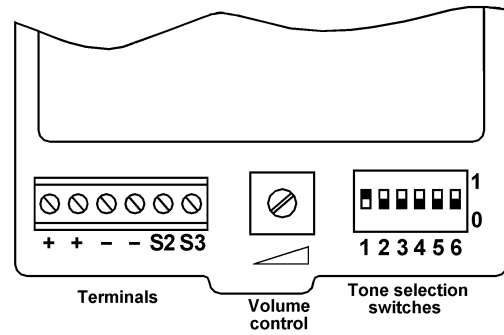

Fig 3 Location of field terminals and controls.
- c. Fit an appropriate 20mm cable gland or conduit entry into the tapped hole in the enclosure and connect the field wiring to the appropriate sounder terminals as shown in Fig 3. The power supply terminals + and – are duplicated so that sounders may be connected in parallel, or an end-of-line monitoring resistor may be fitted.
- d. Select the required output tone by positioning the six switches as shown in Table 1 and Fig 3.